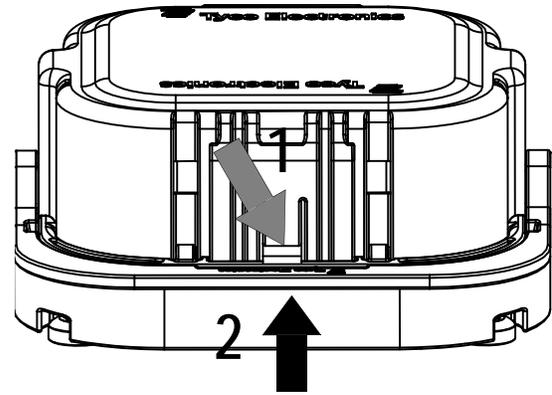

Figure 7
1. Depress the latch firmly. With the latch fully depressed, rotate the lever upward and away from the pack as shown in Figure 7.